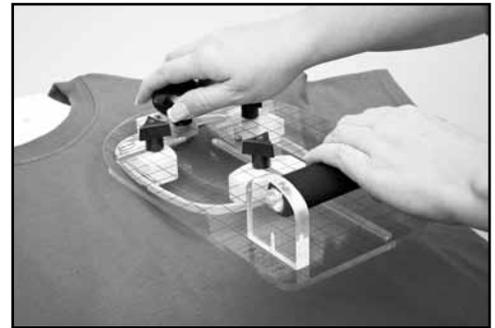

Fig. 4
5. Following the Hooping Station instructions, complete the hooping. You can save effort and time by using the Snap-Ease Hoop Press to set your hoops. Fig. 4.